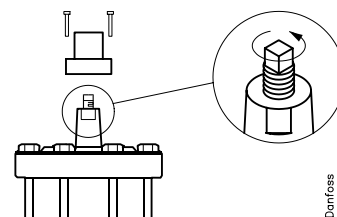

Fig. 8
closing device can be opened by hand, if the cap is removed and the spindle is turned anti-clockwise. To close the valve, turn the spindle clockwise. The spindle must be screwed to the lowest possible position during normal operation (fig. 8).
Ved strømsvigt lukker GPS ventilen (NC). Ventilene uden tvangslukningsmekanisme kan åbnes ved håndkraft, hvis hætten fjernes, og spindlen drejes mod uret. Ventilen lukkes ved at dreje spindlen med uret. Spindlen skal være skruet i lavest mulige position under normal drift (fig. 8).